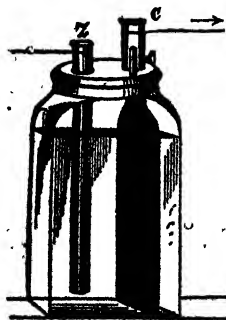

FIG. 19.
*Sulphate of Mercury.*—This is again a single-liquid battery, and is very simple. In a glass bottle (Fig. 19) are two elements, consisting of a rod of zinc and a plate of carbon, passing through a porcelain cover, and terminating outside in binding-screws. The bottle is charged with about 3 oz. of bisulphate of mercury; water is then poured in up to nearly the shoulder; the elements are then inserted. This battery is the most useful of the kind for ringing household bells, &c., and for purposes where you only require occasional action, and for no great length of time. Under such circumstances I have known one of these batteries last over twelve months without being touched; it then only required some more bisulphate of mercury.